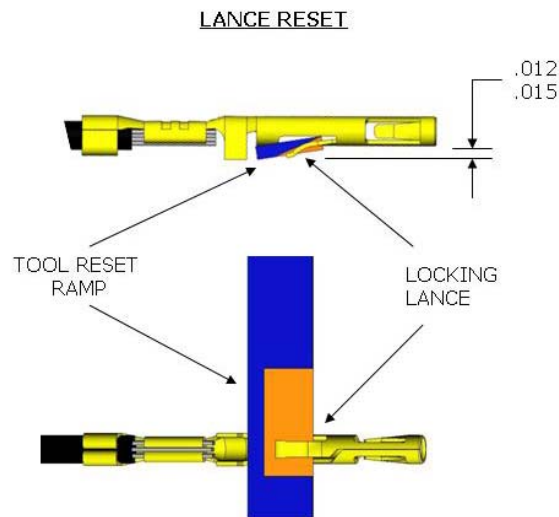

**FIGURE 2**
The Micro Mate contact has a retaining lance that can be released through an access cavity located on the top and bottom of the housing as shown in **Figure 2**. The Extraction Tool is inserted into the cavity to depress the lance the correct amount for contact removal.
2. From the top or bottom of the housing insert the Extraction Tool into the lance cavity as shown in **Figure 2**. This is typical for all contacts.